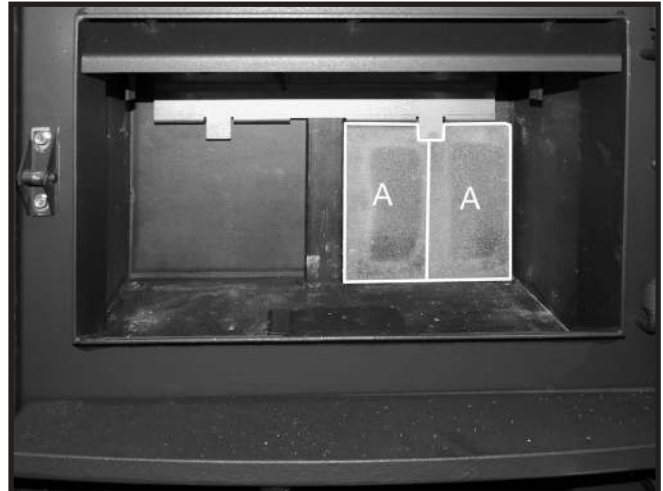

Figure 19: Installing the 2nd rear wall firebricks.
2. Slide a 2nd "A" firebrick underneath the tab on the brick rail (Figure 19).